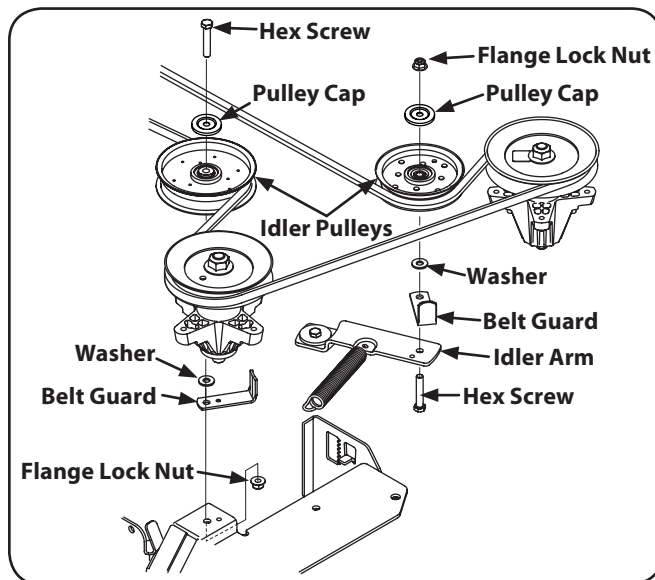

Figure 7-9
2. Remove the hex washer screws securing the belt covers to the deck. See Figure 7-9.
- Install the new belt around the spindle pulleys as shown and reinstall the belt covers. See Figure 7-9.